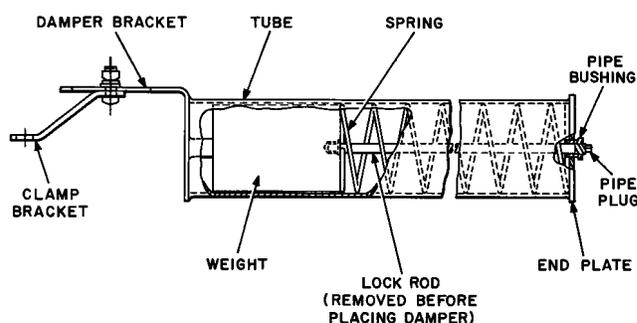

Fig. 12—B Cable Damper
4.22 The damper when assembled for shipment has a 3/8-inch lock rod inserted between the weight and lower end of the housing to prevent movement of the weight during transportation and handling. The B Cable Damper is shown in Fig. 12.